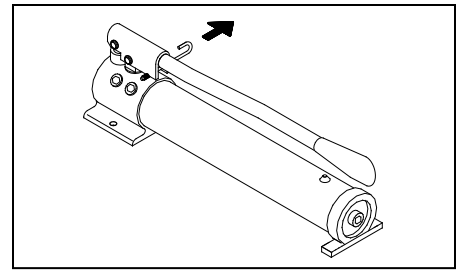

Figure 2 - Pull spring loaded lock pin, pivot toward rear to unlock pump handle.
- Pull spring loaded lock pin, pivot toward rear to unlock the handle (Fig. 2).